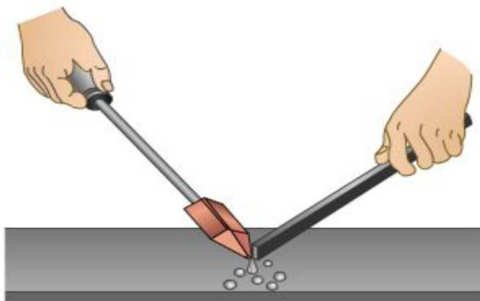

Figure 3: Joining process
- b) A Mechanical engineering student in Machakos University was given a project in joining components together as shown below in figure 3, After completing the job, he realized the joint was weak .